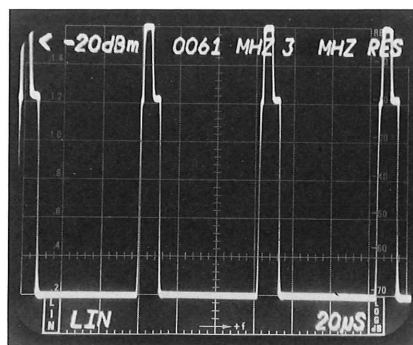

Figure 6-8. Adjusting percentage of modulation using 1405.
- i. Adjust the modulator's VIDEO GAIN to bring peak white to 12.5 percent of sync tip or 1 division from base line (figure 6-8)